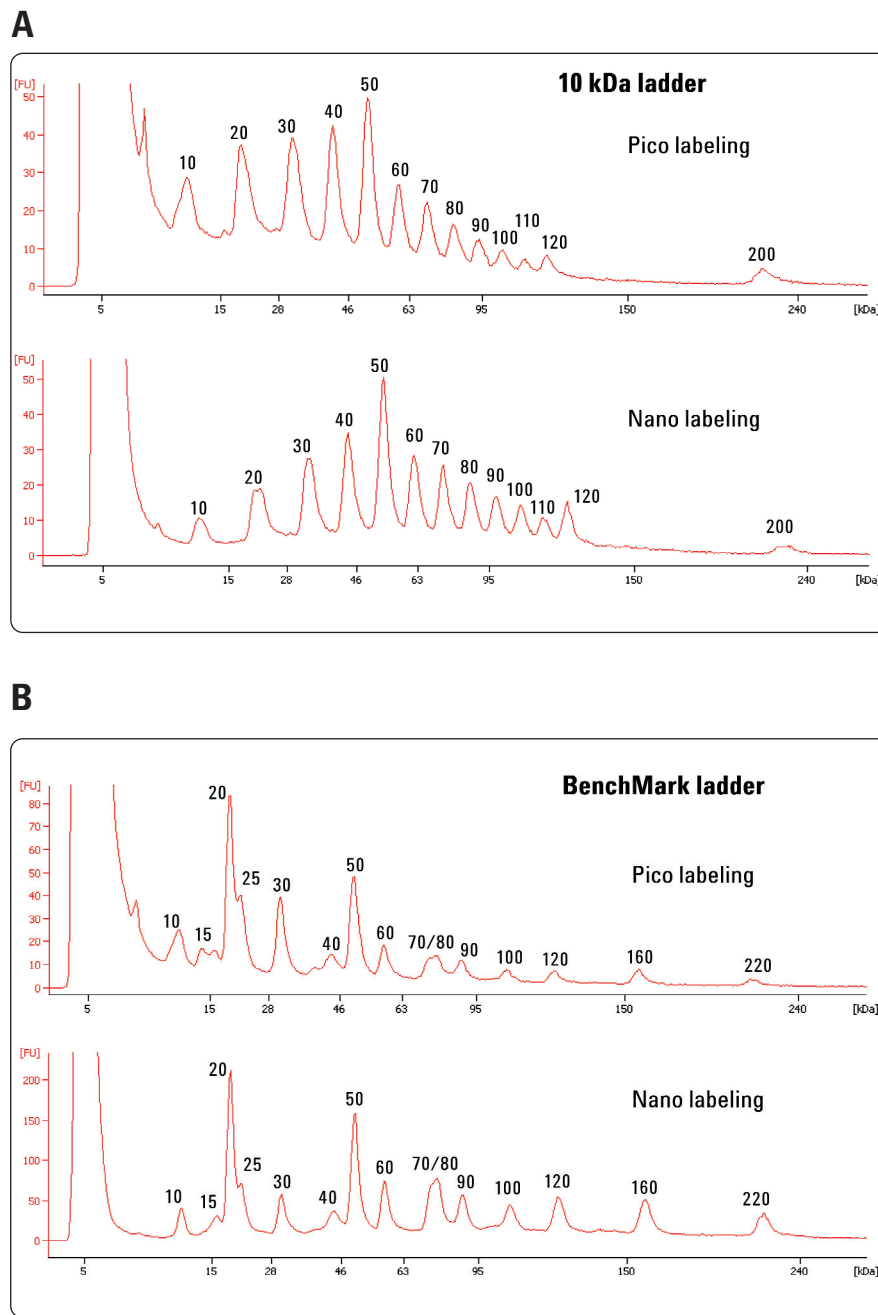
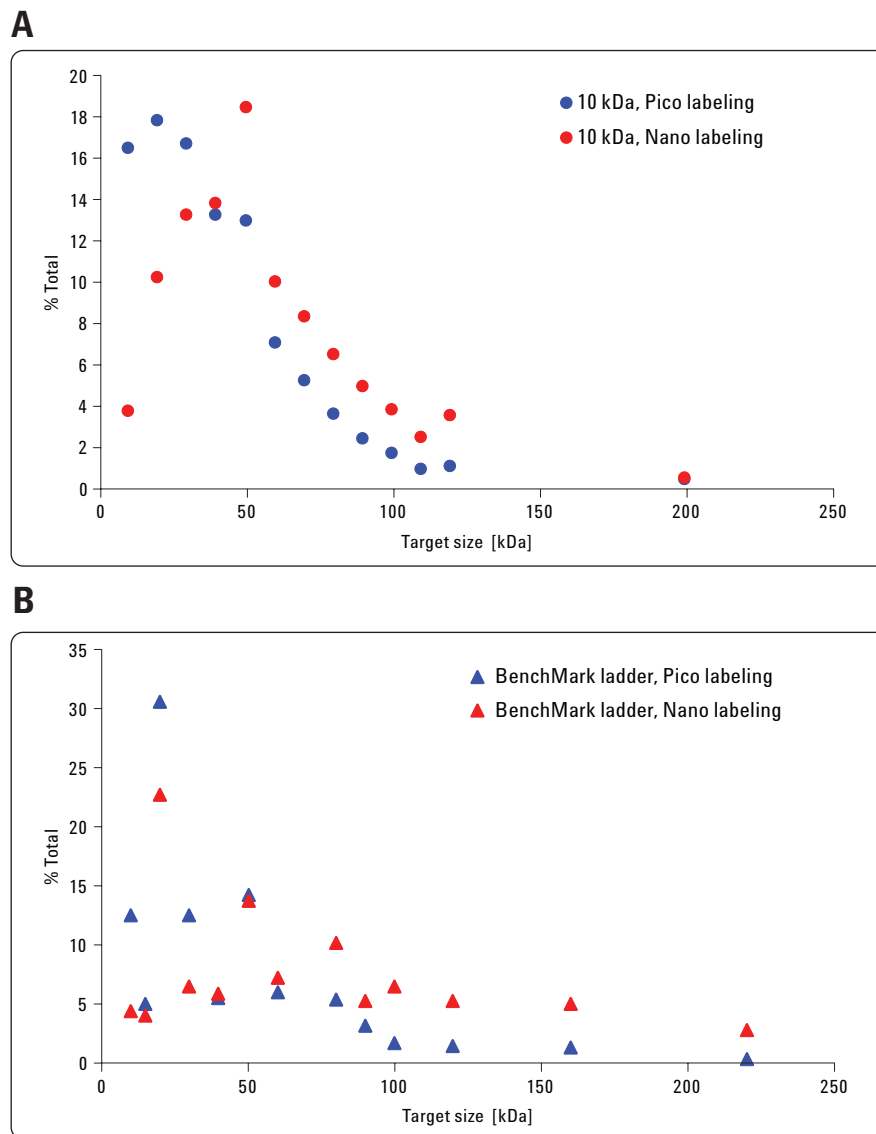

Figure 4
Figure 5
Figure 4 compares the results obtained with the Nano and the Pico labeling protocols for two different protein size standards, the BenchMark ladder and the 10 kDa ladder. All peaks were detected with both variants of the High Sensitivity Protein 250 assay. No difference was seen in terms of sizing resolution, accuracy, or reproducibility. Data obtained with the Pico labeling protocol were within limits of error identical to those obtained with the Nano method (data not shown and ¹).
Furthermore, a quantification bias with the Pico labeling protocol is observed in Figure 4 that favors proteins below 40 kDa. A more quantitative description of this effect is presented in Figure 5. A reason for the enhanced variability of the assay employing the Pico labeling protocol could be the increased loss of protein at plastic surfaces like microcentrifuge tubes or pipette tips. At protein concentrations lower than 1 ng/ μ L in nonphysiological buffers, like the standard labeling buffer (30 mM Tris/HCl, pH 8.5), large proteins especially are prone to denature and expose hydrophobic patches to the solvent and stick to plastic surfaces. Along these lines of evidence is the observation that the addition of salt to the labeling buffer can attenuate this bias to some extent, however, at the expense of sensitivity (data not shown).
Bias favoring small proteins with the Pico sample labeling protocol. The data are derived from the experiment shown in Figure 4. % Total values given by the 2100 expert software are plotted against the target protein size; (A) for the 10 kDa ladder and (B) for the BenchMark ladder. Averages of four independent labeling reactions are shown. The data from the Nano protocol is plotted in red and from the Pico protocol in blue.